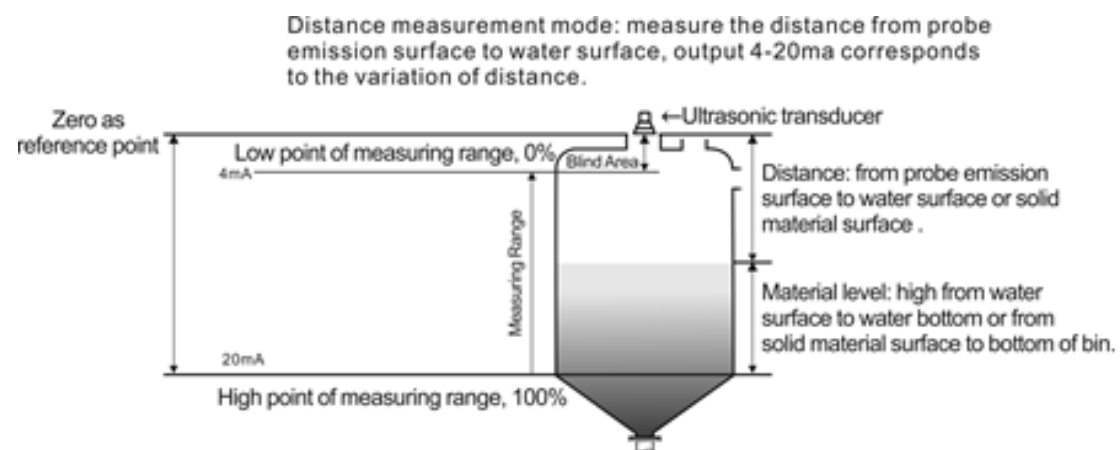

Fig. 1.1 Diagram of Distance Measurement
① Under distance measuring mode, setting of reference zero point is meaningless and the positions of maximum of measuring range and minimum of measuring range are as shown in Fig. 1.1.